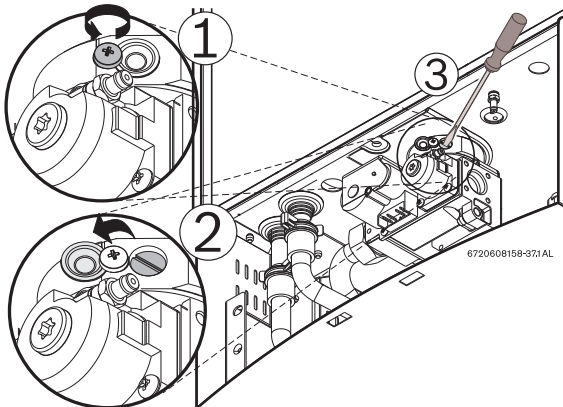

Fig. 57 Adjusting P1 CO₂ level
- ▶ Loosen yellow painted philips screw (1) and cover should rotate down (2) revealing a recessed brass slotted screw. Fig. 57.